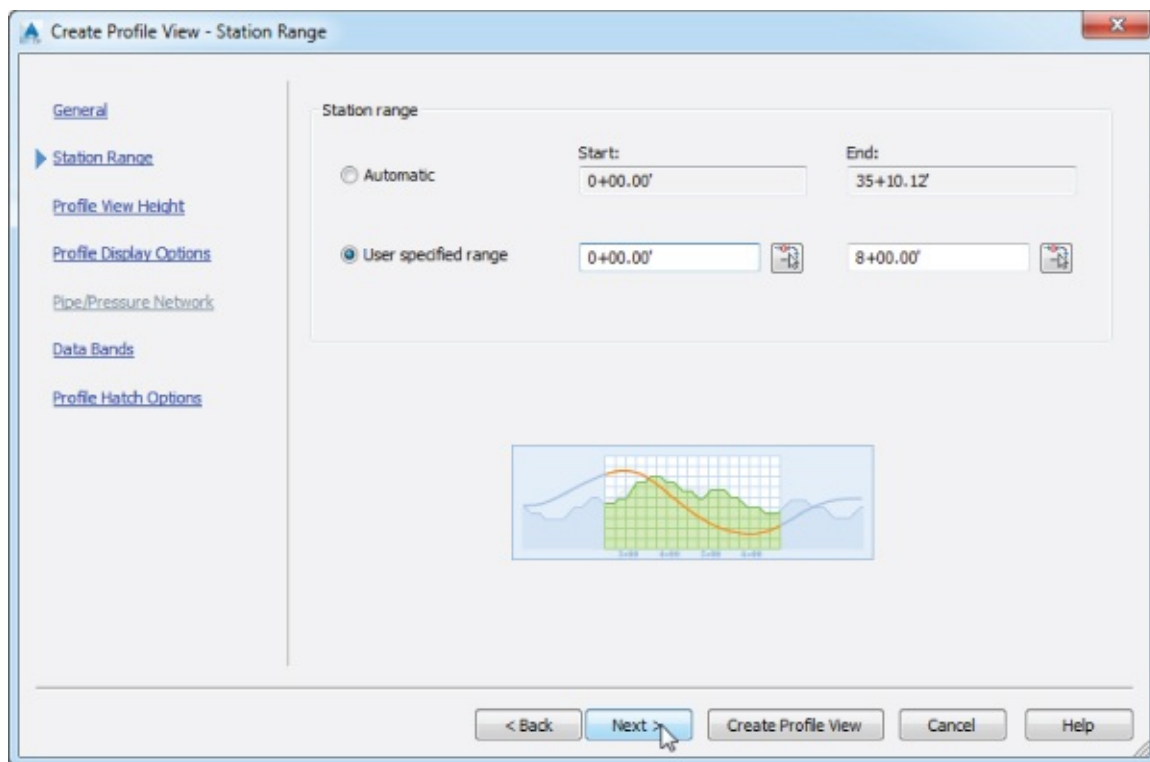

Figure 7.38 The start and end stations for the user-specified : profile view
5. Enter **0** for the start station and **800** for the end station (or **0** and **245** for metric users), as shown in Figure 7.38. It isn't necessary to include the + when entering station data.